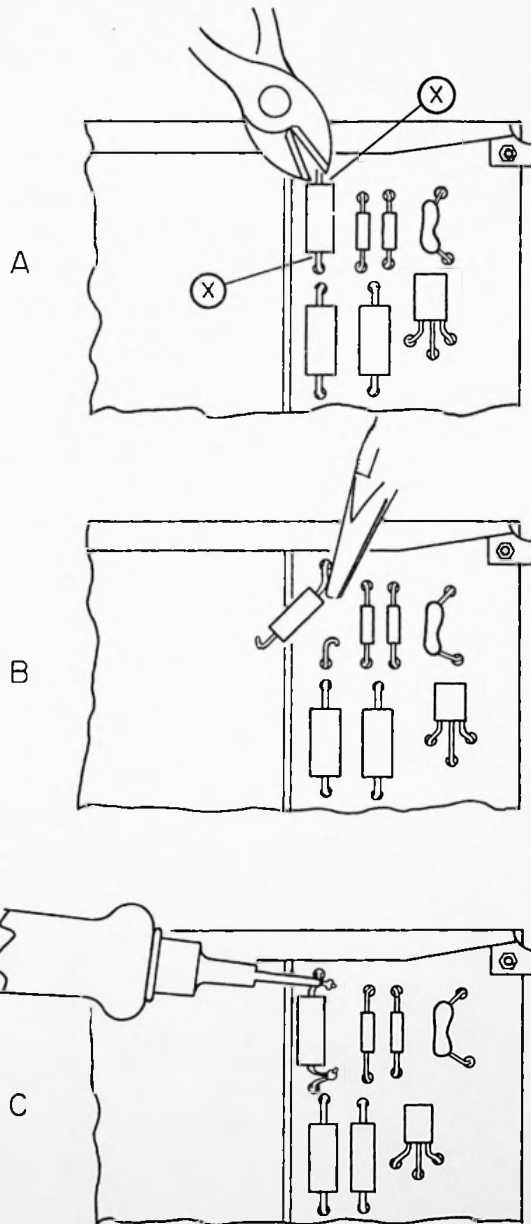

Figure 5. Changing components on a printed-circuit board.
- (2) If the leads on the new component are too short to pass through the board to the proper points on the printed side, the old leads must be used. As shown in A of figure 5, cut the leads as closely as possible to the faulty component (at "X"). With longnose pliers, form loops in the old leads and attach the new component leads to these loops (B of fig. 5). Then solder the connections, as shown in C of figure 5. If necessary, more lead length can be gained by cutting or breaking the faulty component, and stripping its excess composition from the leads. Any part of the lead formerly inside the component must be cleaned thoroughly before any new connections are made.